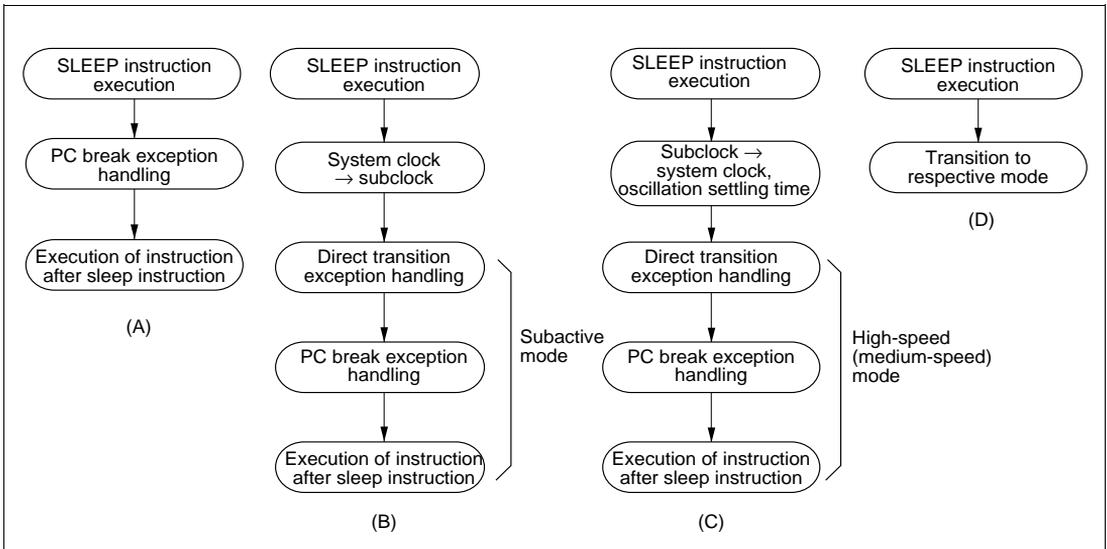

Figure 6-2 Operation in Power-Down Mode Transitions
After execution of the SLEEP instruction, a transition is not made to sleep mode or subsleep mode, and PC break interrupt handling is executed. After execution of PC break interrupt handling, the instruction at the address after the SLEEP instruction is executed (figure 6-2 (A)).
After execution of the SLEEP instruction, a transition is made to subactive mode via direct transition exception handling. After the transition, PC break interrupt handling is executed, then the instruction at the address after the SLEEP instruction is executed (figure 6-2 (B)).
After execution of the SLEEP instruction, and following the clock oscillation settling time, a transition is made to high-speed (medium-speed) mode via direct transition exception handling. After the transition, PC break interrupt handling is executed, then the instruction at the address after the SLEEP instruction is executed (figure 6-2 (C)).
After execution of the SLEEP instruction, a transition is made to the respective mode, and PC break interrupt handling is not executed. However, the CMFA or CMFB flag is set (figure 6-2 (D)).